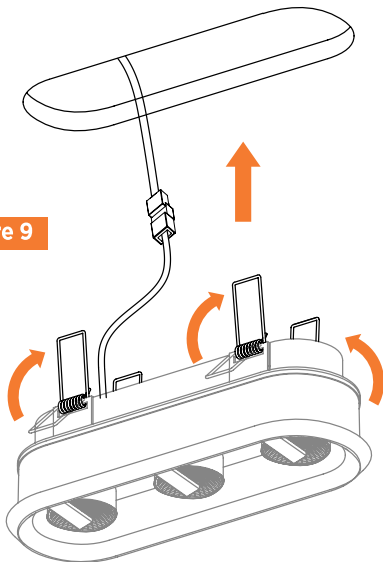

Figure 9
9. To remove the trim, use the provided tool. Slide the tool tip between the lens and the trim as shown in figure 9. Pull down the tool to detach the trim from its snaps.